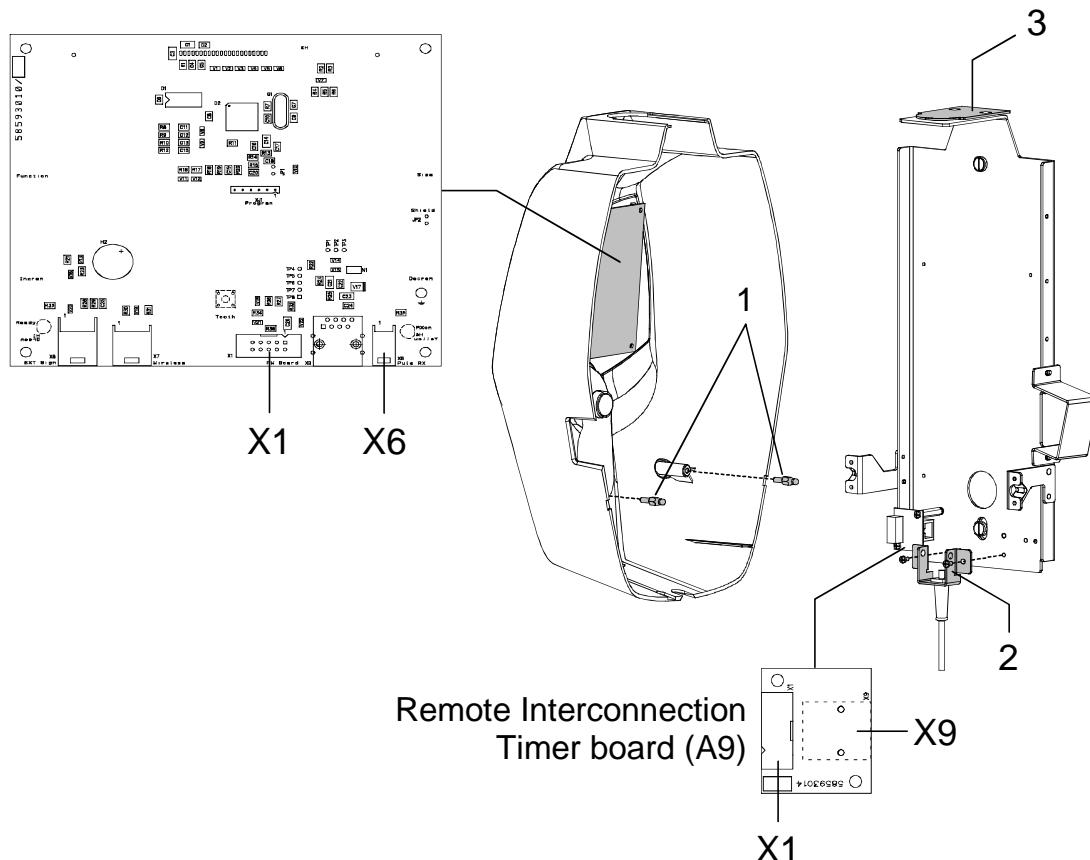

Figure 6-21
1. Assemble the X-ray button complete of its support (2 - Figure 6-21) on the Remote Timer plate.
2. Connect the RJ 45 cable to the Remote Interconnection Timer board (A9) – connector X9 (Figure 6-21).
3. Assemble the two pins lock (1 - Figure 6-21) on the Timer cover (1 - Figure 6-1); these pins (code 2100511300) are included in the mounting hardware packaging.
5. Place the cover on the remote support taking care that the cover is positioned under the upper plate (3 - Figure 6-21). Push the cover against the locking pins and tighten the two upper screws.